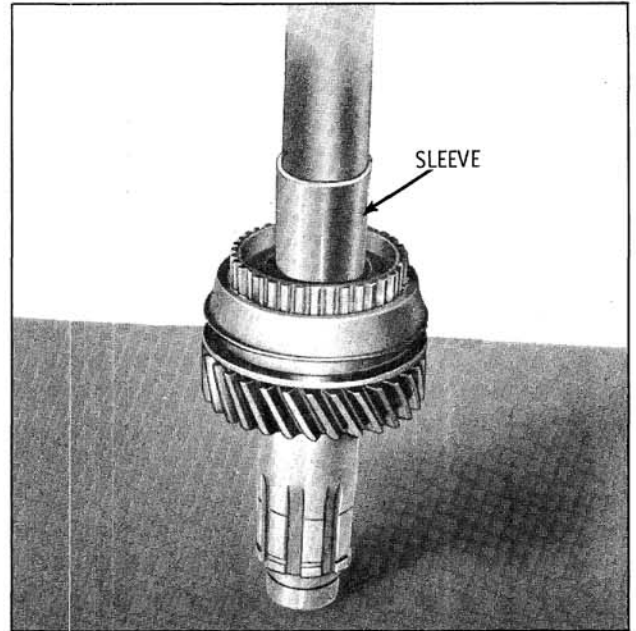

Fig. 7-66 Removing 1-2 Speed Synchronizer Clutch Assembly Retaining Sleeve
18. Remove 1-2 speed synchronizer clutch assembly retaining sleeve (Fig. 7-66) and remove 1-2 synchronizer assembly, second-speed synchronizer ring and second-speed gear from mainshaft.